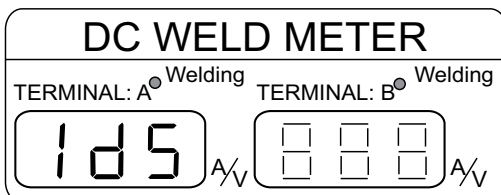

Figure 54. DC Weld Meter (Idle Stop)
- The welding process will be stopped once the preset time (1-30 minutes) has been reached. The engine will shutdown and the "1d5" message will be displayed on the DC Weld Meter (Figure 54).